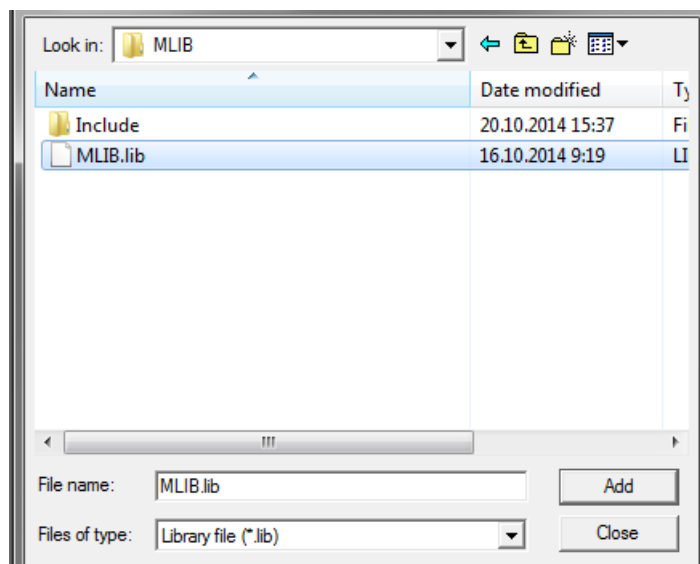

Figure 1-22. Adding .lib files dialog
- Navigate to the parent folder C:\NXP\RTCESL\CM33F_RTCESL_4.6_KEIL\MLIB, and select the *mllib.lib* file. If the file does not appear, set the Files of type filter to Library file. Click Add. See Figure 1-22.